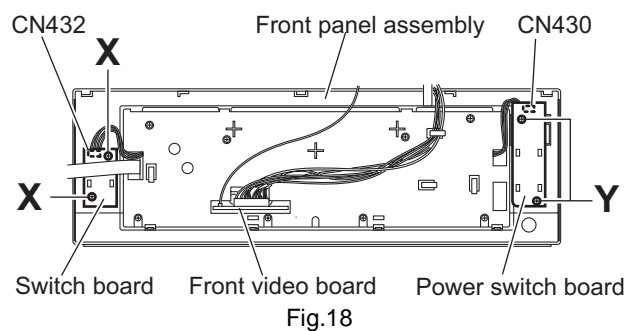

Fig.18
3.16 Removing the switch board (See Fig.18)
- (1) From the back side of the front panel assembly, remove the two screws **X** attaching the switch board.
- (2) Take out the switch board, disconnect the wire from the connector CN432 on the switch board.
3.17 Removing the power switch board (See Fig.18)